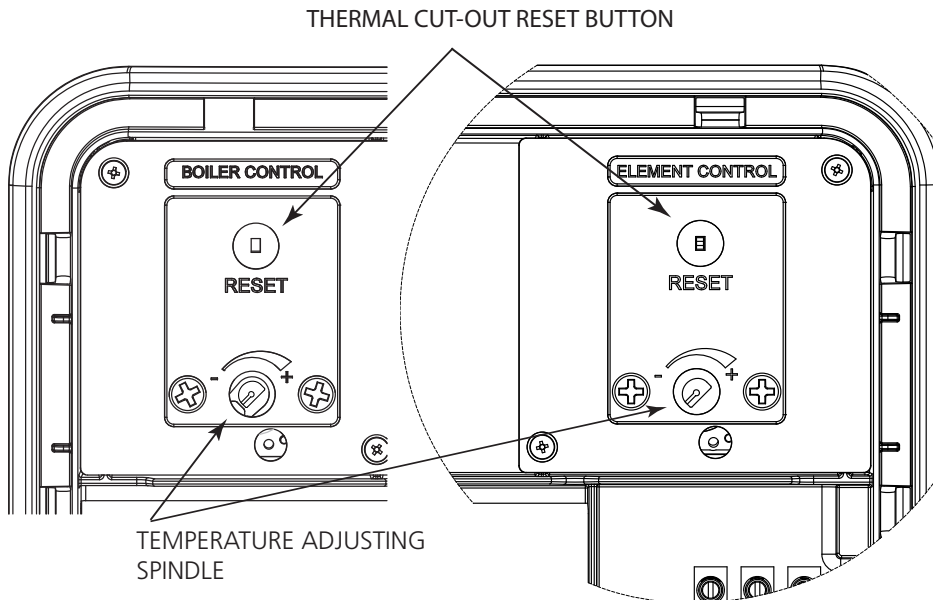

Figure 14: Thermostat adjustment
- ▶ The immersion heater thermostat is factory set at 60°C. Should this require adjustment see Fig 14 for details of how to adjust the temperature setting. Each immersion heater has its own individual thermostatic control. The thermostat incorporates a thermal cut-out that will switch off the immersion heater in the event of a thermostat failure. The thermal cut-out reset button position is also shown on Fig 14.
- ▶ The immersion heater and indirect control thermostats are factory set at 60°C. Should this require adjustment see Fig 14 for details of how to adjust the temperature setting. The immersion heater and indirect controls each has its own individual thermostatic control. The thermostats incorporate a thermal cut-out that will switch off in the event of a thermostat failure. The thermal cut-out reset button position is also shown on Fig 14.
- ▶ If necessary the temperature can be adjusted by inserting a flat bladed screwdriver in the adjustment spindle on front of the immersion heater (ELEMENT) control thermostat and rotating (see Fig. 14 page, 20 for details of how to adjust). The adjustment represents a temperature range of 10°C to 70°C.
- ▶ If necessary the temperature can be adjusted by inserting a flat bladed screwdriver in the adjustment spindle on front of the indirect (BOILER) thermostat and rotating (see Fig. 14, page 20 for details of how to adjust). The adjustment represents a temperature range of 10°C to 70°C.
- ▶ Temperature adjustment is made by rotating the adjustment knob on the top of the thermostat. The adjustment represents a temperature range of 10°C to 70°C (see page 20, fig 14 for method of adjustment).